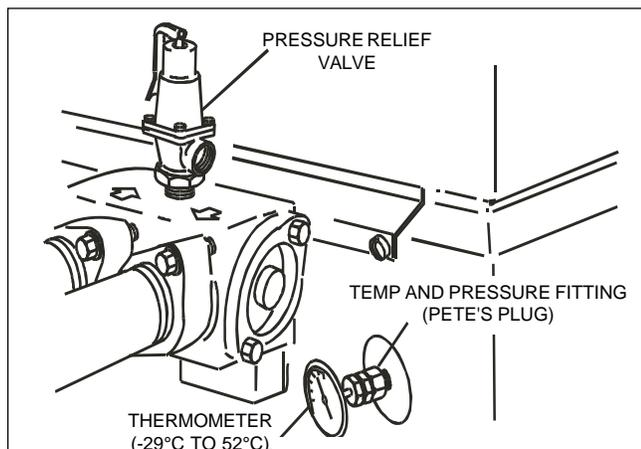

Figure 14. Thermometer and pressure relief valve location.
1. Remove the 19 mm brass plug on top of the header and screw in the valve (see Figure 14).
3. Replace the drain plug with a thermometer inserted through a temperature and pressure fitting (Pete's Plug) (see Figure 14).